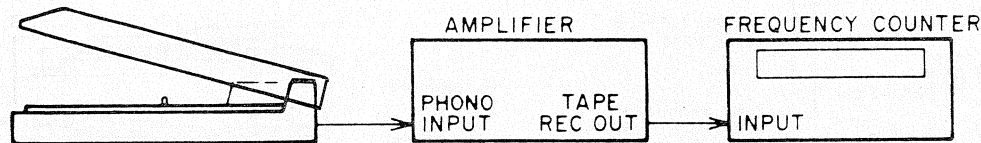

Fig. 5-1 Instruments connection
- 1) Connect the Frequency counter through phono amplifier as shown Fig. 5-1.